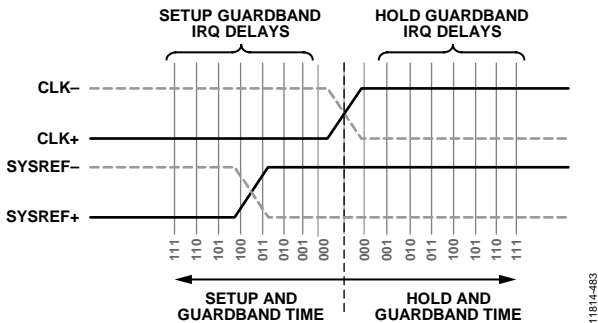

Figure 98. SYSREF± Edge Falls Within the Guardbanded Setup Time Window and Triggers an IRQ Error
In Figure 98, the SYSREF± edge meets the default setup and hold time of the clock, but would trigger an IRQ event only if certain setup time guardband delays were used. For this figure, all of the setup guardband delays that would place the SYSREF± crossing edge between it and the dotted black line would incur
**Table 21. IRQ Outcomes for All Setup or Hold Guardband Settings for the Case in Figure 98**